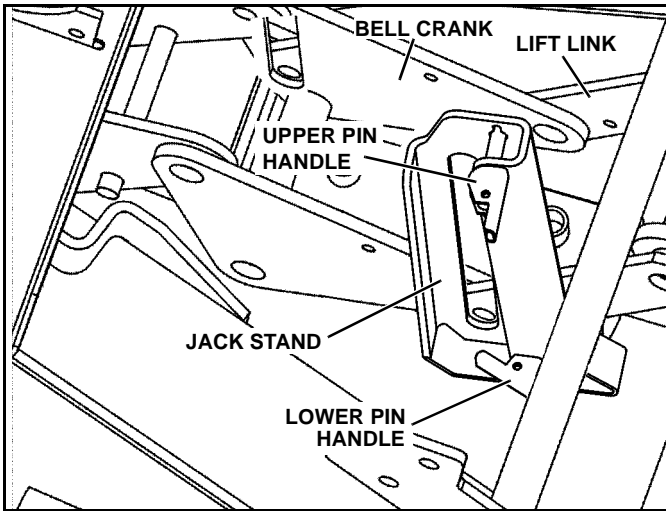

Figure 1-24
7. Disengage both jack stand pins by pulling on handles. Raise the jack stand and engage the bottom pin by pushing on the handle. Make sure pin is engaged in hole by rotating jack stand back and forth. (See Figure 1-24).